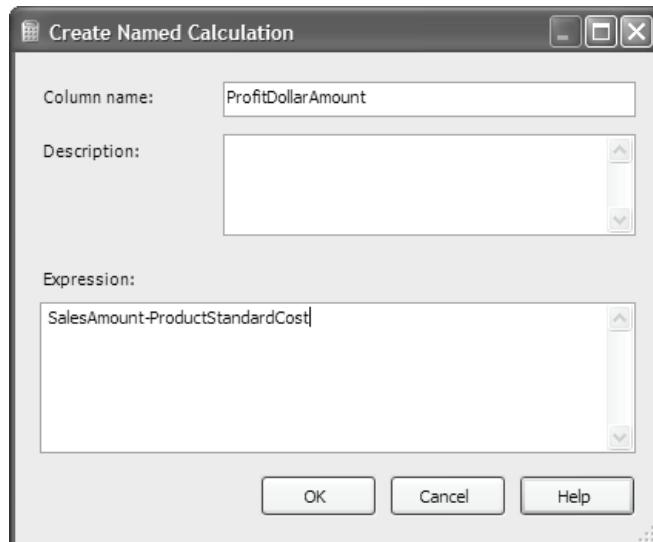

Figure 2.23 You can annotate tables with expression-based columns in the form of named calculation.
3. Right-click on the FactInternetSales table and choose *New Named Calculation*. The Create Named Calculation dialog is shown in Figure 2.23.